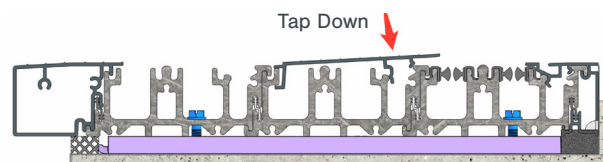

Fig 35
- Lay the cover onto the sill and index the front of the cover to the sill as pictured in Figure 35.